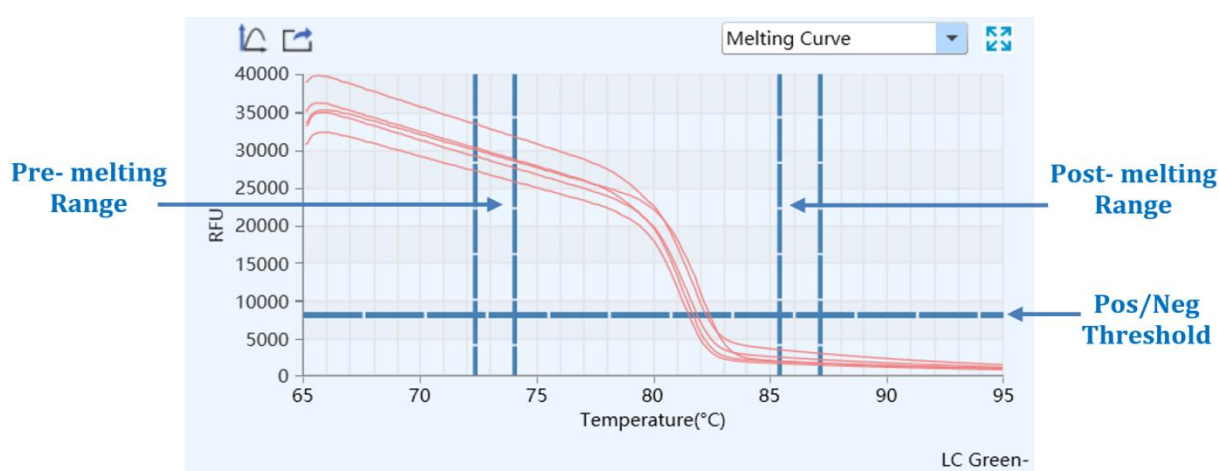

Figure D-14.1. HRM Analysis Interface - Melting Curve Functional Module
I. **Melting Curve**: display the fluorescence intensity against the temperature, as shown in figure D-14.1.